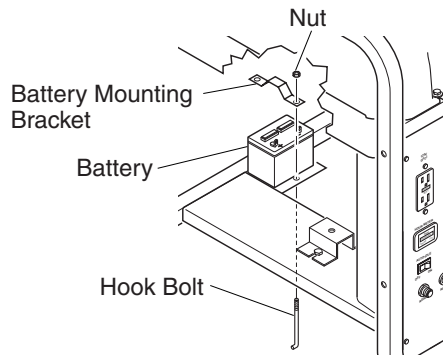

Figure 9 - MGH8500AIE - Battery Hold-Down System (Alternator Removed for Clarity)
1. Secure battery to generator using battery hold-down system. This system consists of the battery mounting bracket, hook bolts, and nuts (see Figures 9 and 10).